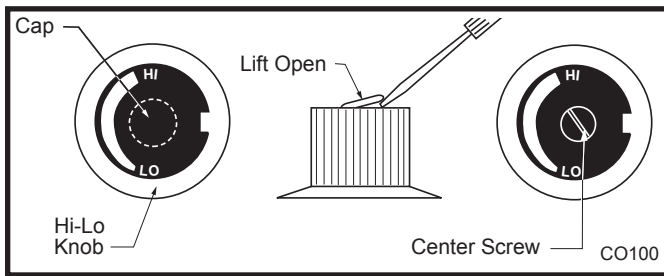

Fig. 55 Remove center screw from Hi-Lo knob.
1. Remove cap from Hi-Lo knob. This can be accomplished by lifting the plastic cap off the screw. (Fig. 55)
2. Remove the screw from center of Hi-Lo knob with small screwdriver turning counterclockwise. (Fig. 55)